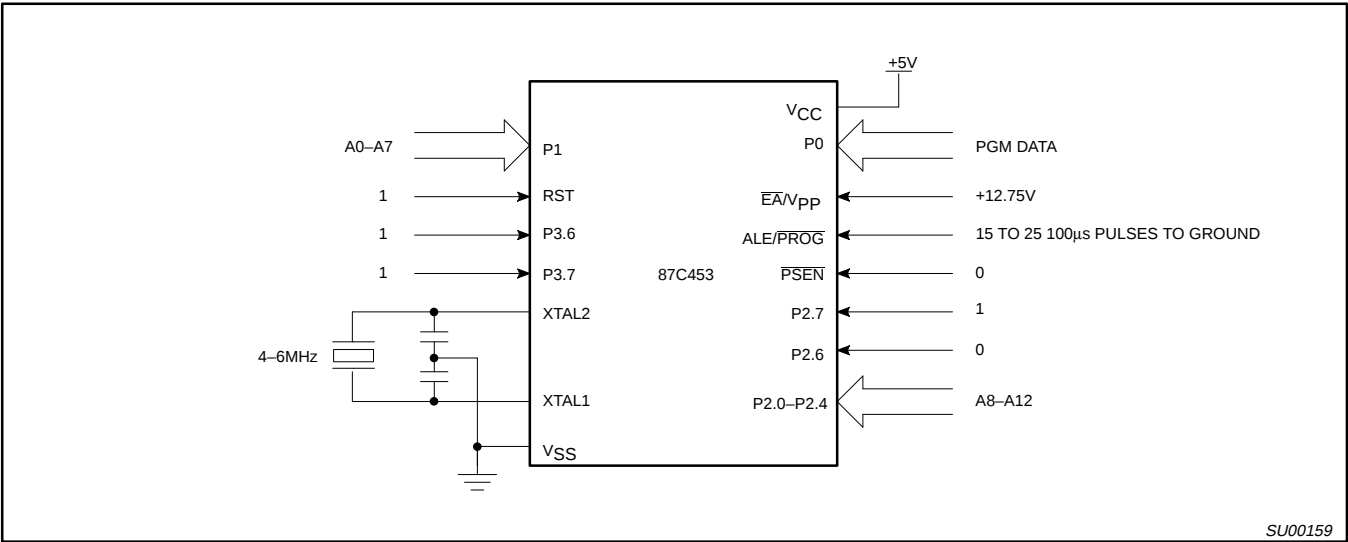
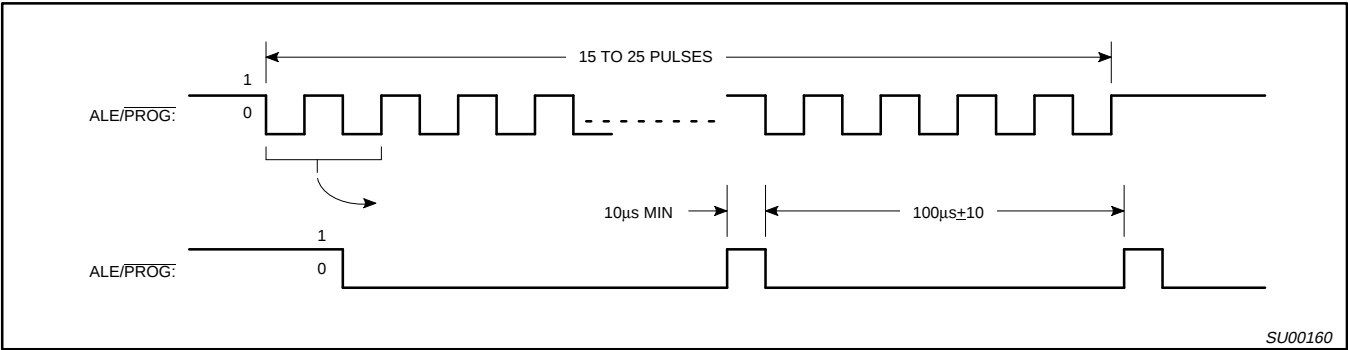
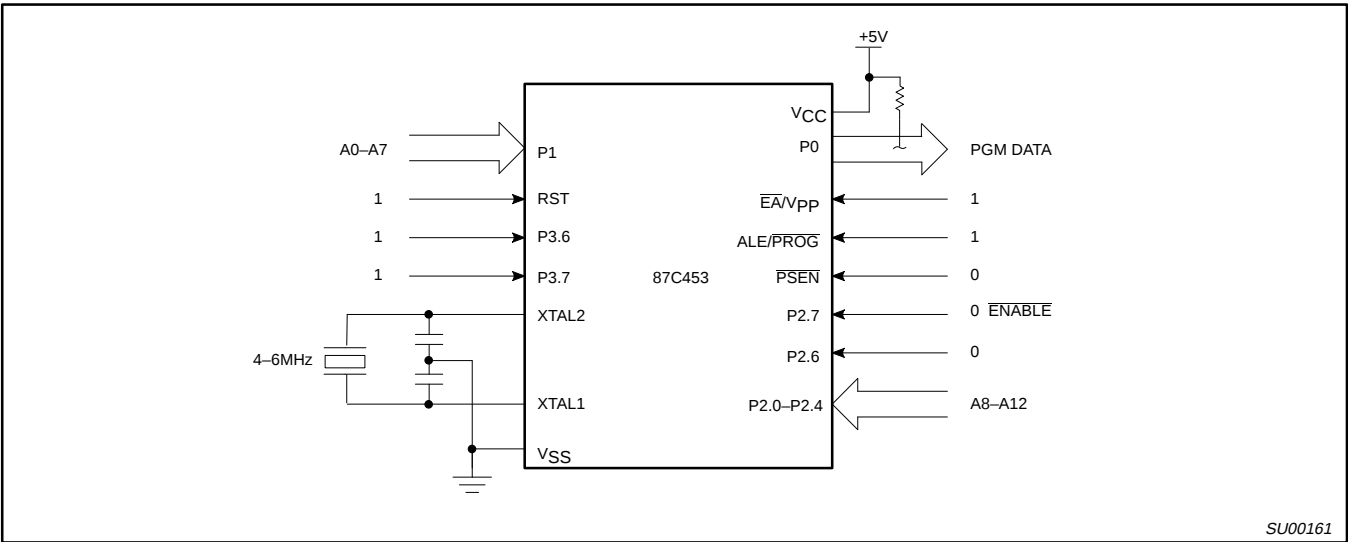

Figure 25. Programming Configuration
Figure 26. PROG Waveform
Figure 27. Program Verification
Table 4 shows the logic levels for reading the signature byte, and for programming the program memory, the encryption table, and the lock bits. The circuit configuration and waveforms for quick-pulse programming are shown in Figures 25 and 26. Figure 27 shows the circuit configuration for normal program memory verification.
The setup for microcontroller quick-pulse programming is shown in Figure 26. Note that the 87C453 is running with a 4 to 6MHz oscillator. The reason the oscillator needs to be running is that the device is executing internal address and program data transfers.
The address of the EPROM location to be programmed is applied to ports 1 and 2, as shown in Figure 25. The code byte to be programmed into that location is applied to port 0. RST, $\overline{PSEN}$ and pins of ports 2 and 3 specified in Table 4 are held at the 'Program Code Data' levels indicated in Table 4. The ALE/PROG is pulsed low 15 to 25 times, as shown in Figure 26.
If lock bit 2 has not been programmed, the on-chip program memory can be read out for program verification. The address of the program memory locations to be read is applied to ports 1 and 2 as shown in Figure 27. The other pins are held at the 'Verify Code Data' levels indicated in Table 4. The contents of the address location will be emitted on port 0. External pull-ups are required on port 0 for this operation.
- * FOR PROGRAMMING VERIFICATION SEE FIGURE 25.
FOR VERIFICATION CONDITIONS SEE FIGURE 27.